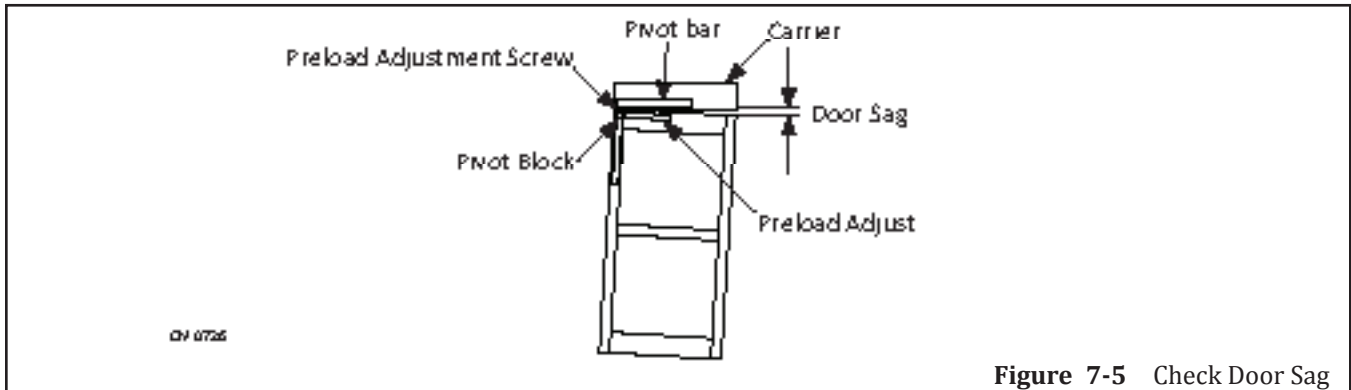

Figure 7-5 Check Door Sag
2. Check for door sag. Please see Figure 7-5.